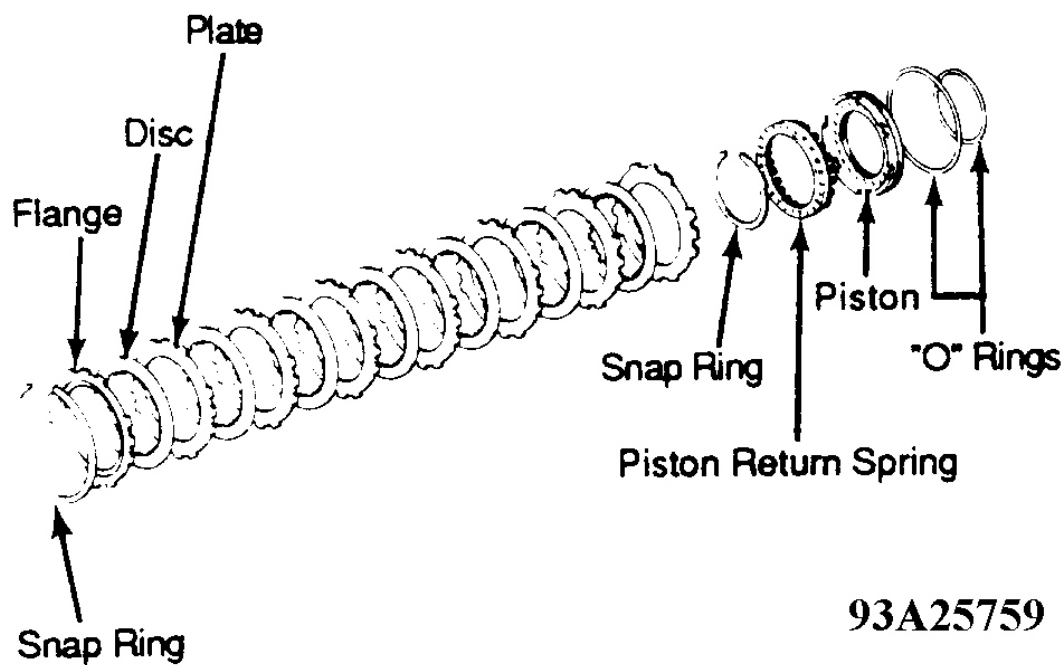

Fig. 28: Exploded View Of 1st & Reverse Brake Piston (A-540E Shown; A-540H is Similar)
1. Remove snap ring from 1st and reverse brake. Remove flange, discs and plates. Note location of components. See **Fig. 28**.
3. Push snap ring in place with fingers. Ensure snap ring is fully seated and centered on 3 lugs of spring retainer. Ensure end gap of ring is not aligned with spring retainer claw. Remove compressor tool. Install discs, plates and flange. See **Fig. 28**.